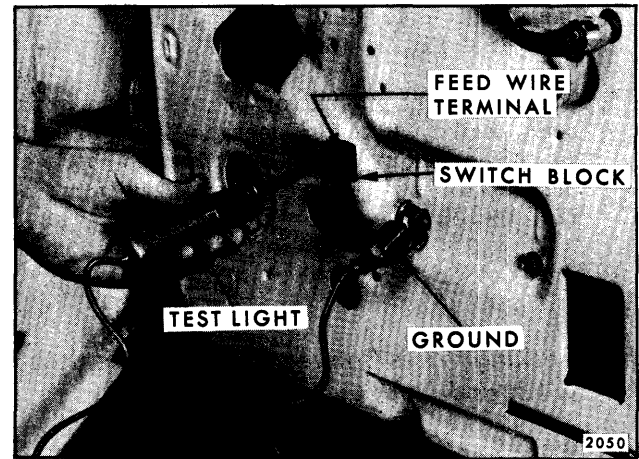

Fig. 16-11—Checking Feed Circuit
1. Connect one test light lead to feed terminal of switch block and ground other tester lead to body metal (See Fig. 16-11).